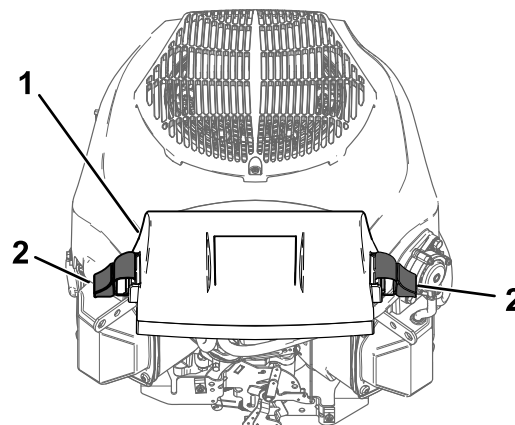

Figure 35
3. Install the cover and secure it with the retaining clamps (Figure 35).